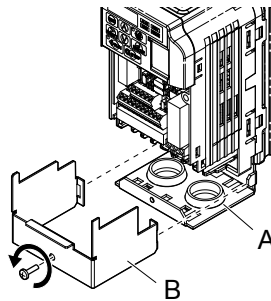

Figure 8.12 Remove the Terminal Cover
2. Loosen the screw on the terminal cover (Figure 8.12, B) to remove the terminal cover and expose the conduit bracket (Figure 8.12, A).